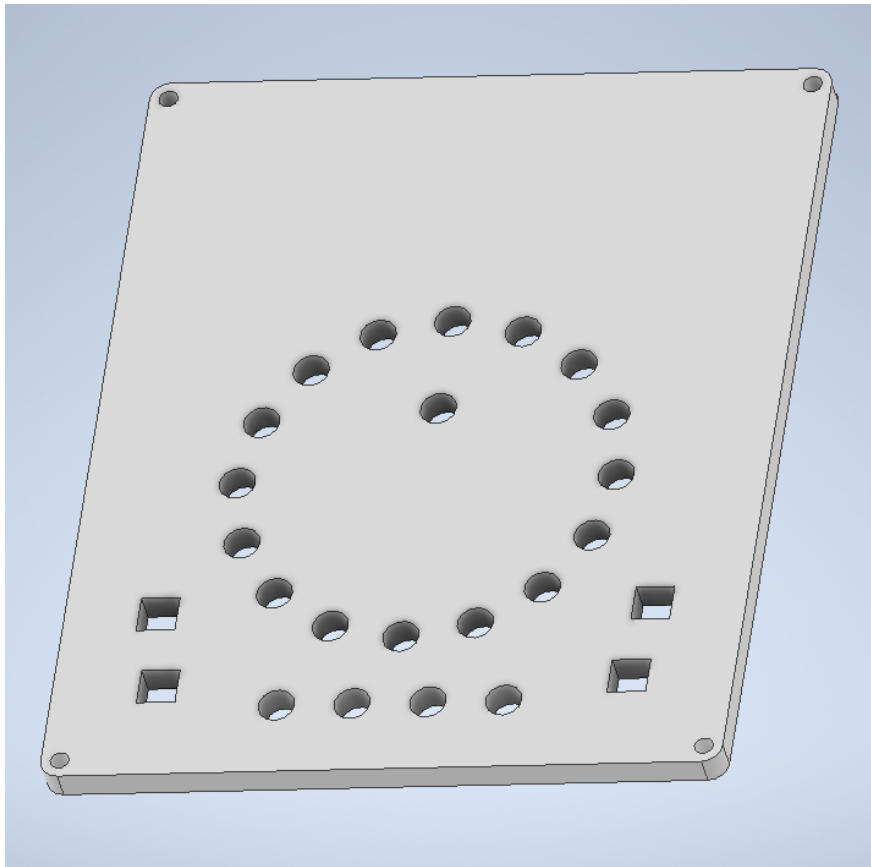

Figure 8-9: Finalized Roulette Wheel Lid
8. For the four indicator lights, put four holes arranged horizontally below the large circle of holes. These should be circular with a 0.24" diameter. The finalized Roulette Wheel Lid can be shown in figure 8-9.